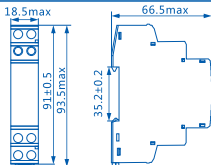

Fig.1 Outline and Installation Size
3.1 Outline and installation size: see Fig. 1, unit: mm.